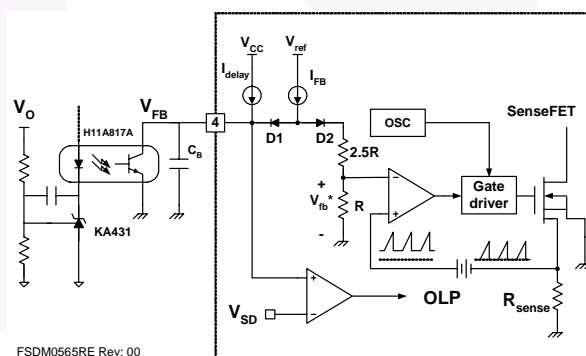

Figure 18. Pulse-Width-Modulation (PWM) Circuit
2. Feedback Control: FSDM0x65RE employs current-mode control, as shown in Figure 18. An opto-coupler (such as the H11A817A) and shunt regulator (such as the KA431) are typically used to implement the feedback network. Comparing the feedback voltage with the voltage across the R_{sense} resistor, plus an offset voltage, makes it possible to control the switching duty cycle. When the reference pin voltage of the shunt regulator exceeds the internal reference voltage of 2.5V, the opto-coupler LED current increases, pulling down the feedback voltage and reducing the duty cycle. This event typically occurs when the input voltage is increased or the output load is decreased.
2.1 Pulse-by-Pulse Current Limit: Because current-mode control is employed, the peak current through the SenseFET is limited by the inverting input of PWM comparator (V_{FB}^*) as shown in Figure 18. Assuming that the 0.9mA current source flows only through the internal resistor ($2.5R + R = 2.8k\Omega$), the cathode voltage of diode D2 is about 2.5V. Since D1 is blocked when the feedback voltage (V_{FB}) exceeds 2.5V, the maximum voltage of the cathode of D2 is clamped at this voltage, thus clamping V_{FB}^* . Therefore, the peak value of the current through the SenseFET is limited.